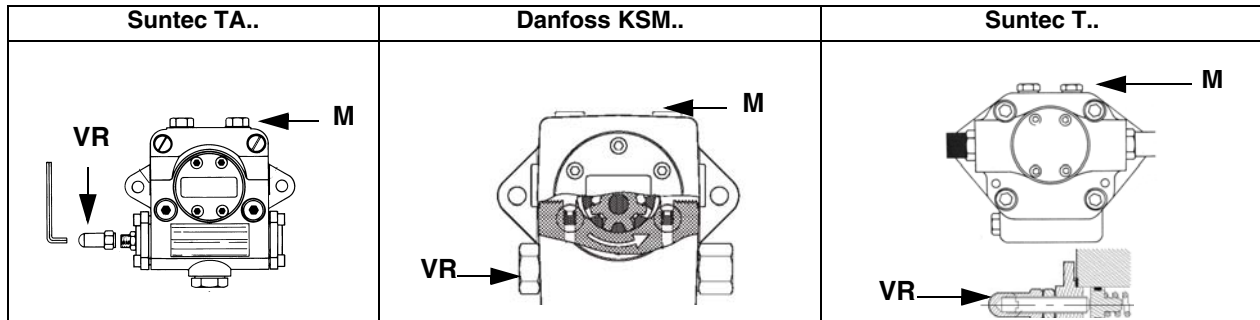

Fig. 23
- 3 bleed the air from the **M** pressure gauge port (Fig. 23) by loosening the cap without removing it, then release the contactor.
- 9 the nozzle supply pressure is already factory-set and must not be changed. Only if necessary, adjust the supply pressure as follows (see related paragraph); insert a pressure gauge into the port shown on Fig. 24 and act on the pump adjusting screw **VR** (see Fig. 23 and page 21) as to get the nozzle pressure at 20 bar or 25 bar (according to the nozzle model provided: Bergonzo or Flui-
The nozzle supply pressure is already factory-set and must not be changed. Only if necessary, adjust the supply pressure as follows (see related paragraph); insert a pressure gauge into the port shown on Fig. 25 and act on the pump adjusting screw **VR** (see Fig. 23 and page 21) as to get the nozzle pressure at 20 bar or 25 bar (according to the nozzle model provided: Bergonzo or Fluidics nozzles - see page 32-33).